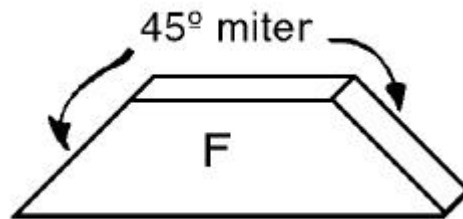

Figure 5
9. Setting each corner support (F) on its face, miter both ends at a 45-degree angle as shown in *Figure 5*.